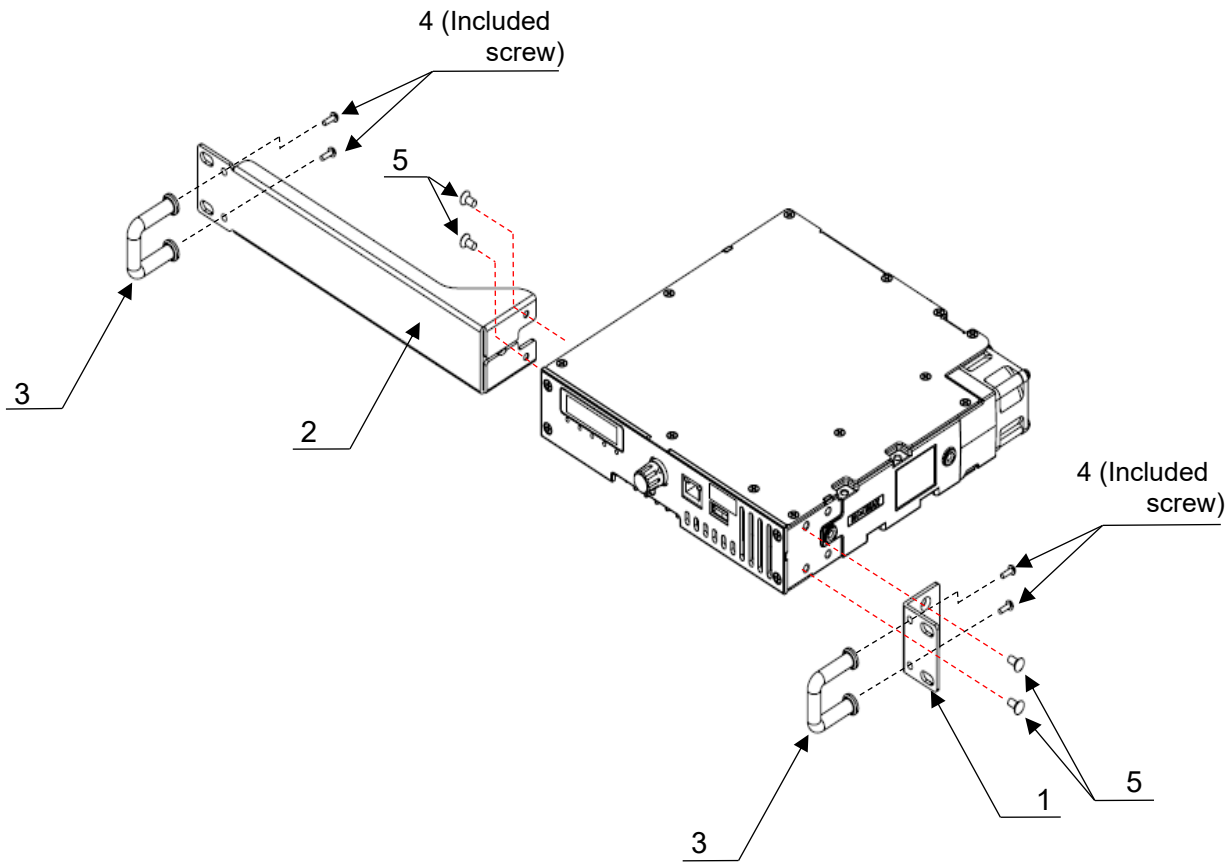
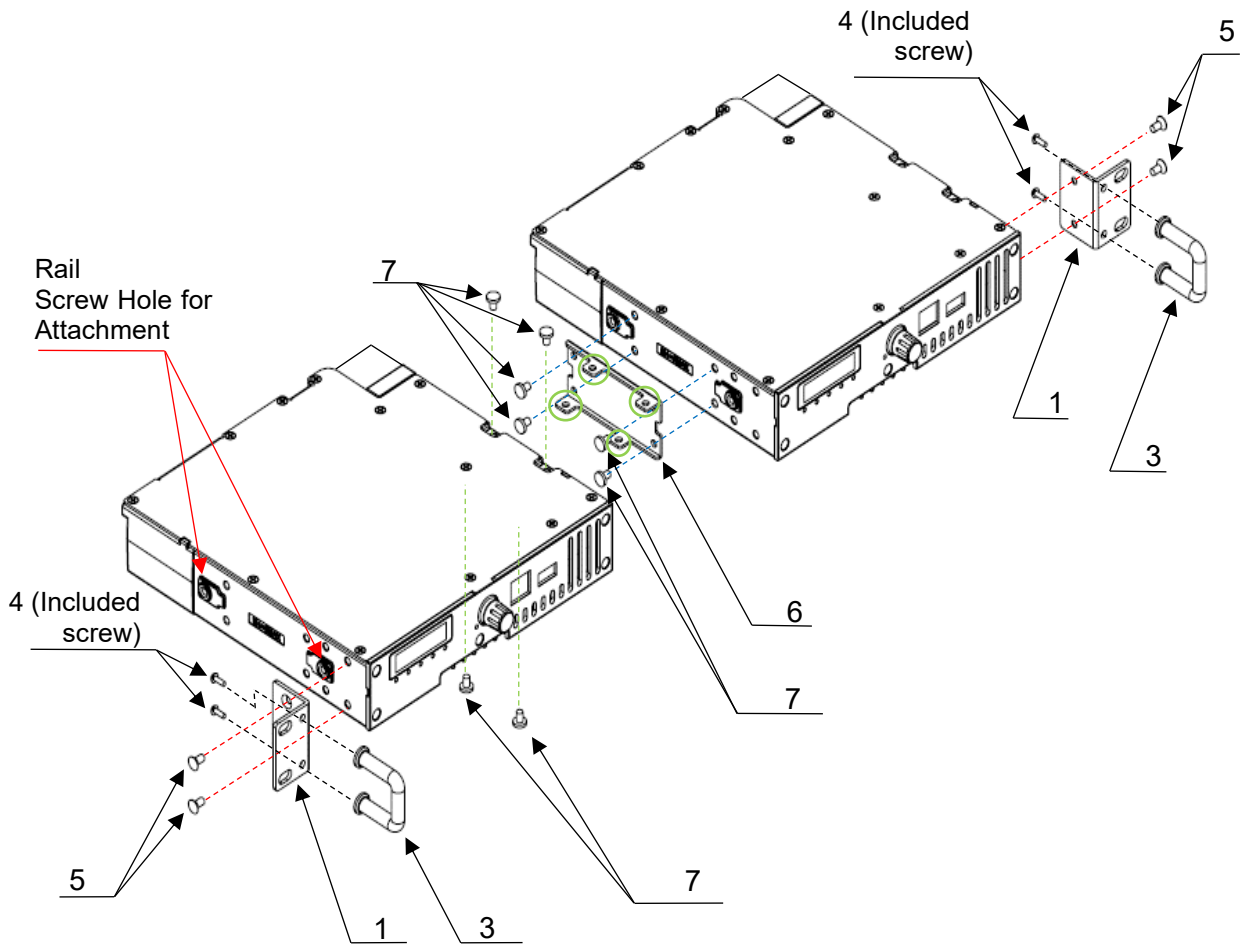

Figure 4-1 Overview for the Attachment of the Supplied Accessories to the Repeater (Single Repeater)
Figure 4-2 Overview for the Attachment of the Supplied Accessories to the Repeater (2 Repeaters)
Attach the assembly of attachments attached to the repeater according to the description in the rack manual (Figure 4-1 or Figure 4-2) to the rack.
- When attaching 2 repeaters, the usage after the attachment of the rails to the repeaters (both sides of the assembly) is recommended. Refer to Figure 4-2 for the rail of the rack and the positions of the screw holes for the attachment of the repeaters.